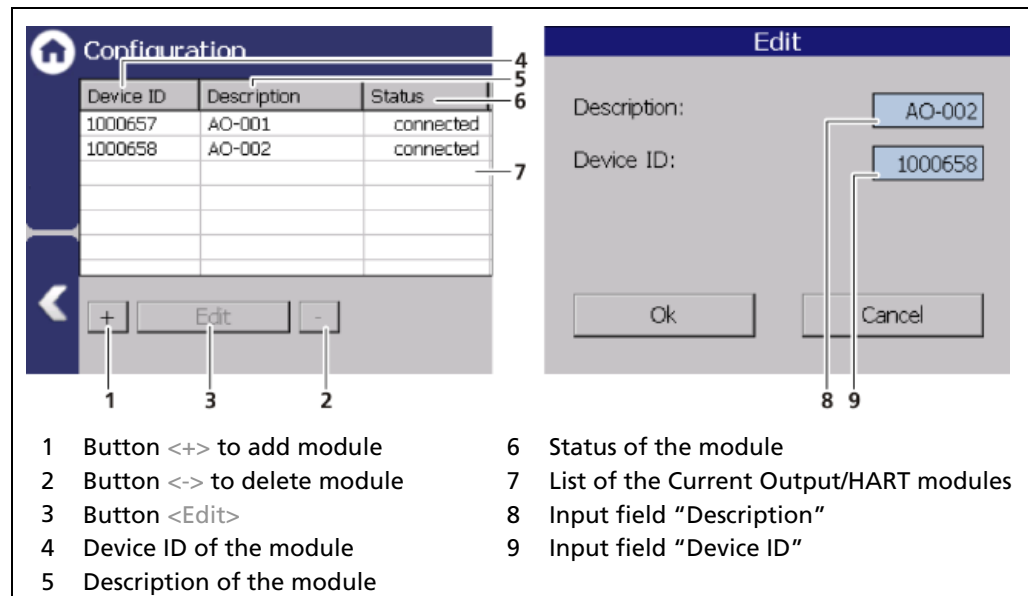

Fig. 106 Configuration Additional Outputs
Clicking the button <Edit> (Fig. 106, item 3) opens the setting of the selected module. Current Output/HART modules can be added manually with the button <+> (Fig. 106, item 1) with their device ID (see type plate on the housing of the Current Output/HART module). Current Output/HART modules can be removed with the button <-> (Fig. 44, item 2).